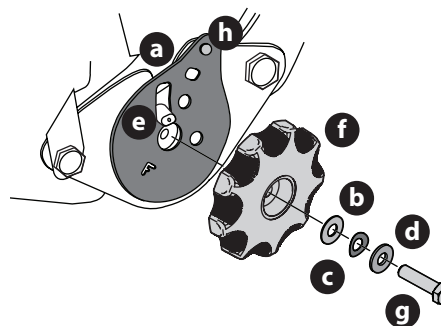

Figure 13
7. Remove the seat tilt knob assembly from the bag and install (Figure 13).
NOTE: Be sure to orient the recliner plate (a) and install the plastic washer (b), spring washer (c) and metal washer (d) (Figure 13). The plastic washer is on the inside.
8. Slide the recliner bearing plate (a) onto the recliner pin (e) (Figure 13).
10. Use a wrench to hand tighten the hex screw (g) until the recliner knob (f) is difficult to turn (Figure 13).
11. Gradually loosen the hex screw (g) until the recliner knob moves freely. Do not loosen the hex screw (g) more than one full turn (Figure 13).
12. Securely install the 1/4" nut onto the clinch-stud (h) and rotate the recliner knob to check the operation of the seat (Figure 13).